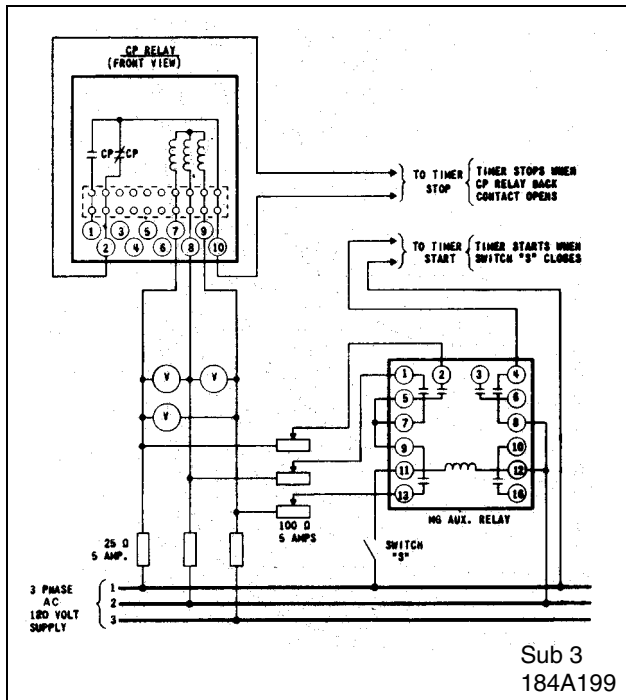

Fig. 8. Diagram of Test Connection for Checking the Undervoltage Time Curves of the Type CP Relay.
- 3. Time Curve** - The time curve can be checked by the use of the circuits of Figs. 8 and 9.
3. Time Curve Calibration - Install the permanent magnet and connect the relay as per the circuit of Fig. 8.